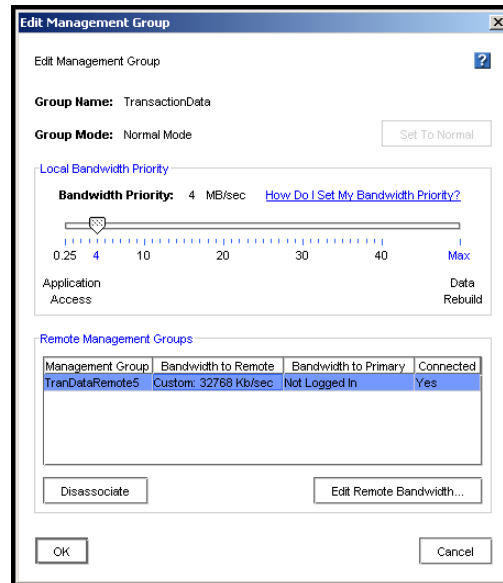

Figure 222. Editing a Remote Management Group
- Click Management Group Tasks and select Edit Management Group. The Edit Management Group window opens, as shown in Figure 222.